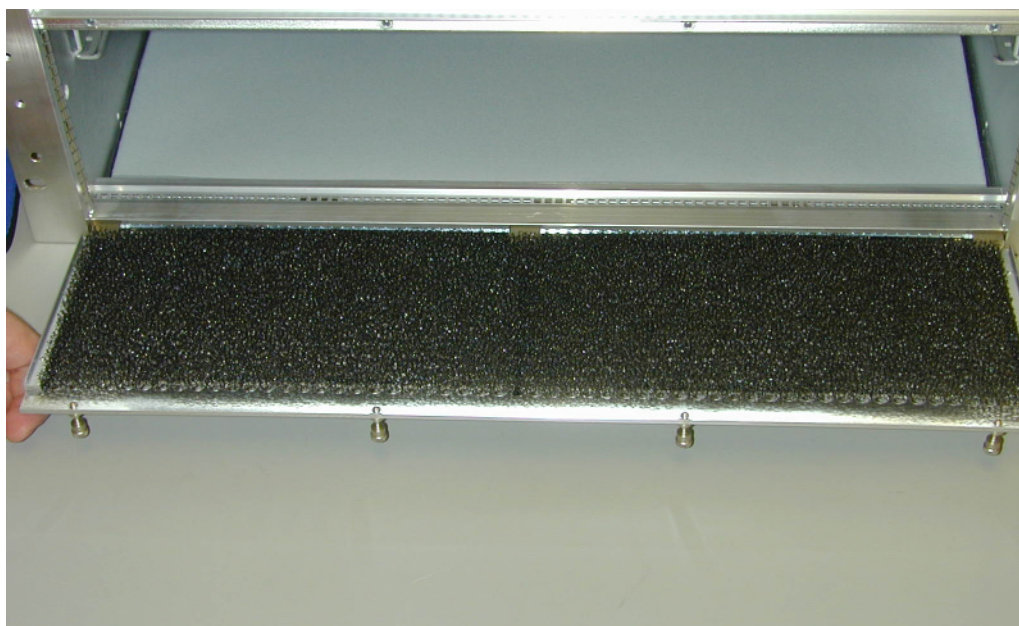

Figure 2-13 Opening the Fan Access Port
1. Open the fan access port by loosening the 4 captive screws and pulling the upper edge of the door forward, as shown in Figure 2-13.
1. Open the fan access port, as shown in Figure 2-13 on page 2-19.